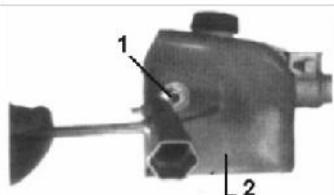

Fig.PP2
1. Using the small end of the plug wrench, remove the sprocket cover nut (turn counterclockwise to remove) and remove the sprocket cover. See Fig.PP2